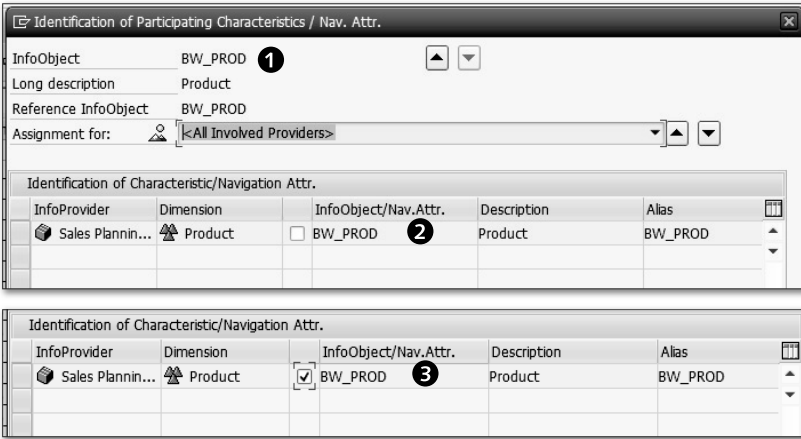

Figure 6.12 Edit MultiProvider: Identify Characteristics from Only One InfoCube
You might also have a scenario where the characteristics can't be matched to characteristics or a navigation attribute in another InfoCube or data target included in the definition of a MultiProvider. For example, characteristic BW_PROD is included in the MultiProvider definition (❶ of Figure 6.12) and offered only from the SALES PLANNING CUBE InfoCube ❷ because there's no matching characteristic available in the Sales InfoCube. In this case, you select the characteristics as we've shown in ❸ of Figure 6.12.